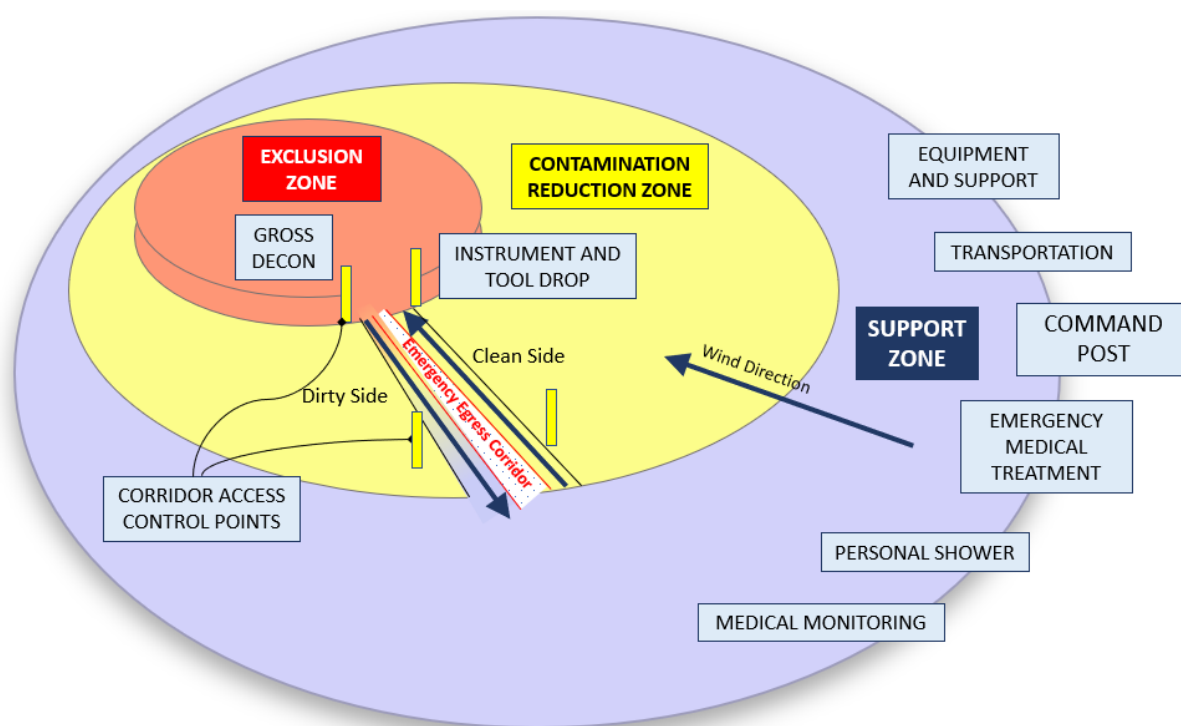

Figure 1. Site Zones and Key Locations
Decontamination (“decon”) is the process of removing or neutralizing contaminants that have accumulated on personnel and equipment. Through a series of steps and stations, the DL moves the EZW from the EZ through the Contamination Reduction Zone (CRZ) to the Support Zone (SZ) (**Figure 1**). The decon process is critical to worker health and safety at hazardous waste sites. Decon procedures protect workers from hazardous substances that may contaminate and eventually permeate protective clothing, respiratory equipment, tools, vehicles, and other equipment used on site. The procedures accomplish the following objectives: